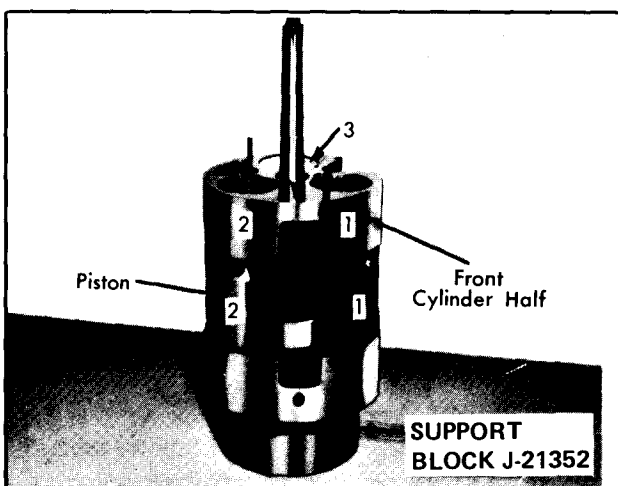

Figure 69—Numbering Piston and Cylinder Bores
2. Identify by pencil mark, or some other suitable means, each piston numbering them as 1, 2, and 3 (figure 69).